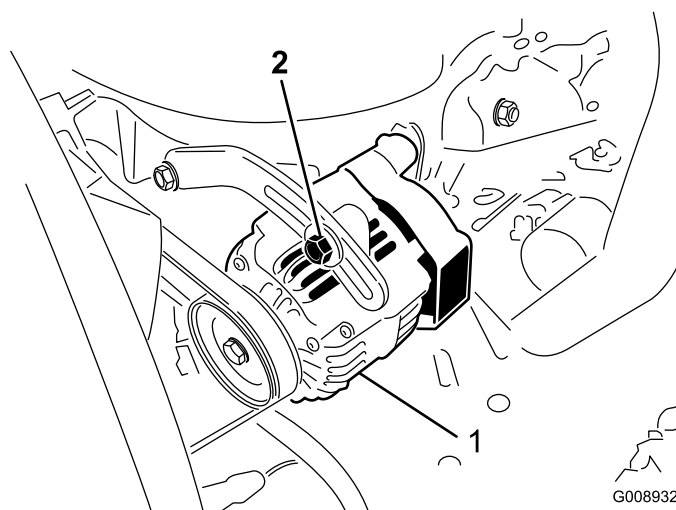

Figure 60
Check the condition and tension of the belts (Figure 60) after every 100 operating hours.
2. If the deflection is not 10 mm (3/8 inch), loosen the alternator mounting bolts (Figure 60).